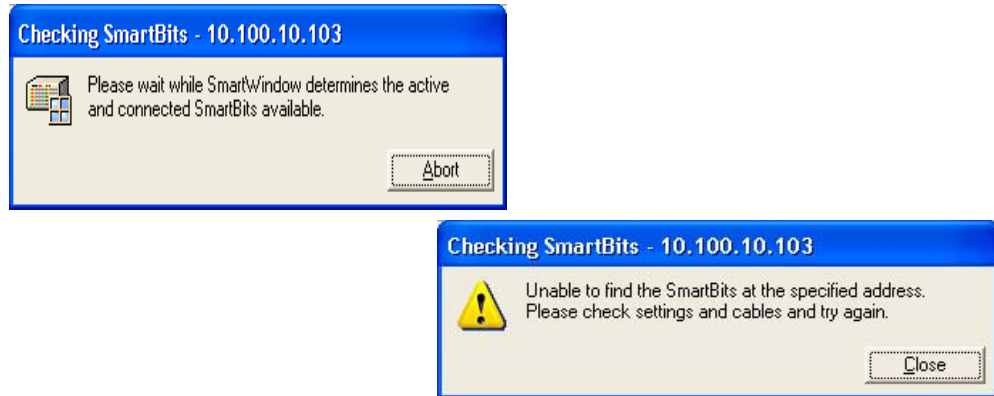

Figure 2-2. Connection Status Messages (SmartBits Tab)
The *Launcher* informs you of its progress (*Figure 2-2*). If it cannot find a chassis, you may need to set up the connection by evaluating the cabling and addresses of the devices. See “*Setting up a Connection*” on page 42.
- If you are connecting to a different chassis from the one specified in the configuration file, this message appears: *Chassis not the same type*. (See *Figure 2-2* and *Figure 2-3*.)